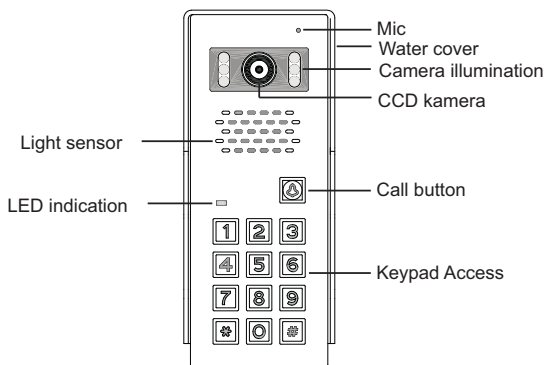

Figure 2. BVC-6503 external panel
- Connect the wires in accordance with the diagram. A cable with colour wires (see Figures 2 and 5) is located in the external panel. Connect those wires with the wiring of the video door phone using a soldering iron, protecting the joint with shrink wrap or insulation.